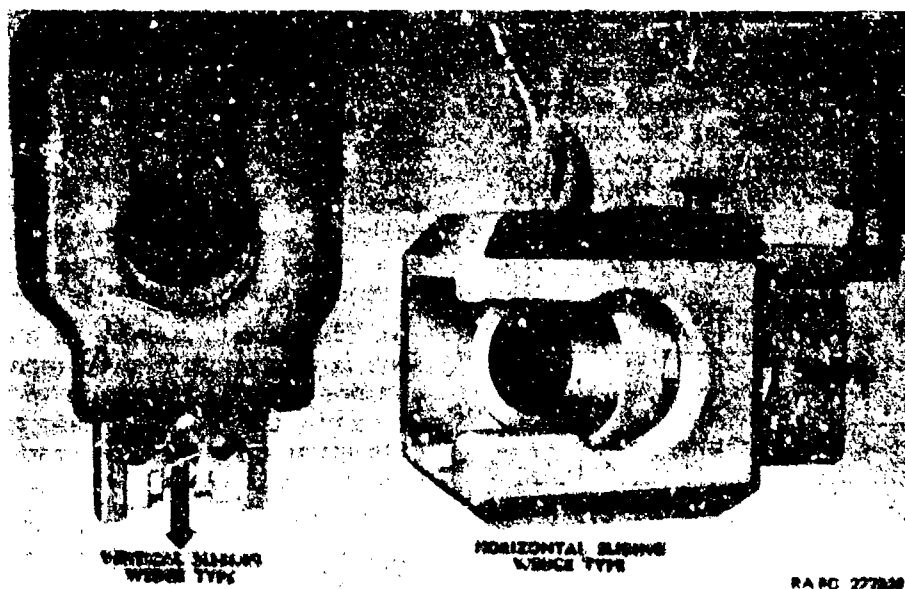

Figure 2-24. Sliding wedge breechblock.
(1) *Sliding-wedge breechblock.* The sliding-wedge breechblock (fig 2-24) is used on weapons that fire semifixed ammunition. The breechblock slides into a rectangular recess in the breechring to open and close the breech. This breechblock does not form a gastight seal (rearward obturation) when it is closed; however, it does keep the cartridge case blocked in the powder chamber so that rearward obturation is obtained by the expansion of the cartridge case against the walls of the powder chamber when the weapon is fired.